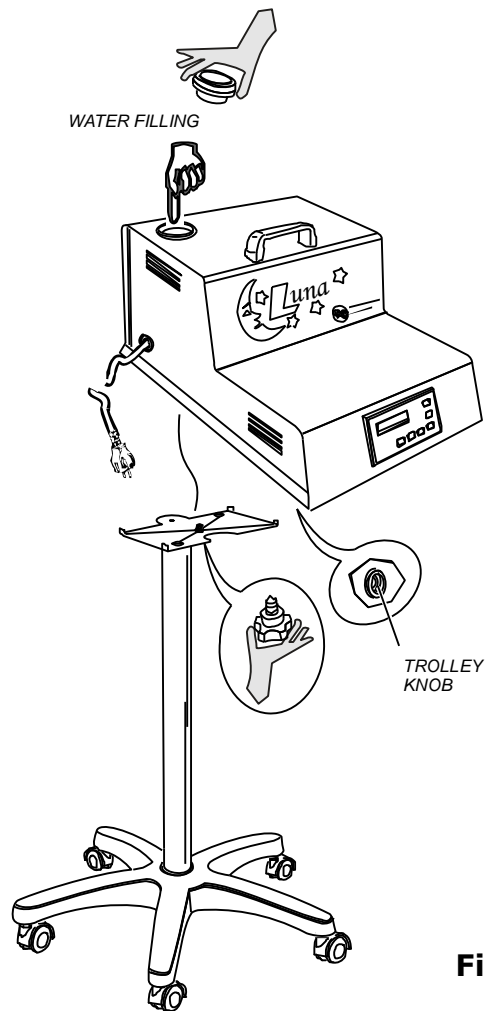

Fig. 2
5. For LUNA PLUS supplied with trolley: screw the trolley knob onto the proper connection under the base of the machine (fig. 2).
1. Open the plug (fig. 2), fill the water tank with water by using a funnel (approx. 1,1 litre), then close the plug again.
If the icon  and the warning “WATER PUMPING” turn on every now and then, this indicates that the LUNA PLUS is pumping water into the boiler. It is therefore important to always fill the water tank (fig. 2).
It is possible to fill the water tank at any time, even when there is pressure inside the boiler. Unplug LUNA PLUS, lift the water plug and add water, paying attention not to spill it onto the machine or electronic card. (fig. 2).